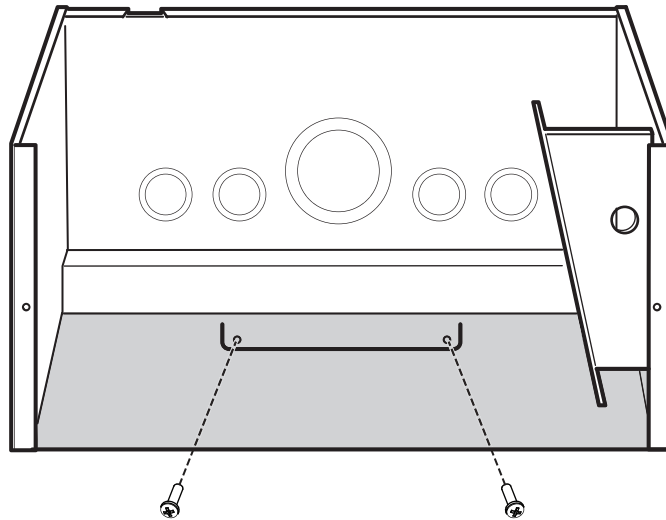

Figure 2-9 Wall-mounting the Conduit Box
- Using two screws (not included), secure the bracket at the bottom edge of the rear panel to the wall. See Figure 2-9.